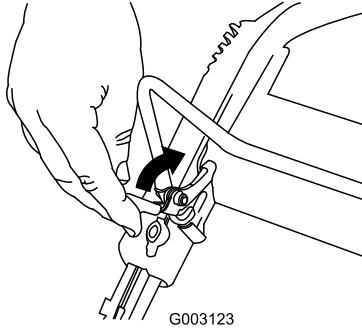

Figure 19
1. Pull the control-bar lock back (Figure 19).